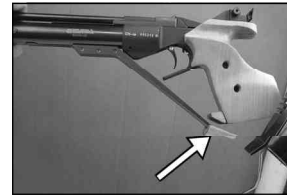

Figure 10
**Cocking Handle:** The cocking handle is located below the barrel and is actuated by pulling the handle down and forward until the bolt points upward. See **Figure 10**. If you do not pull the handle completely forward, the bolt will not lock up and the gas bypass will not be closed. The air bypass must be closed to compress the air in the piston assembly.